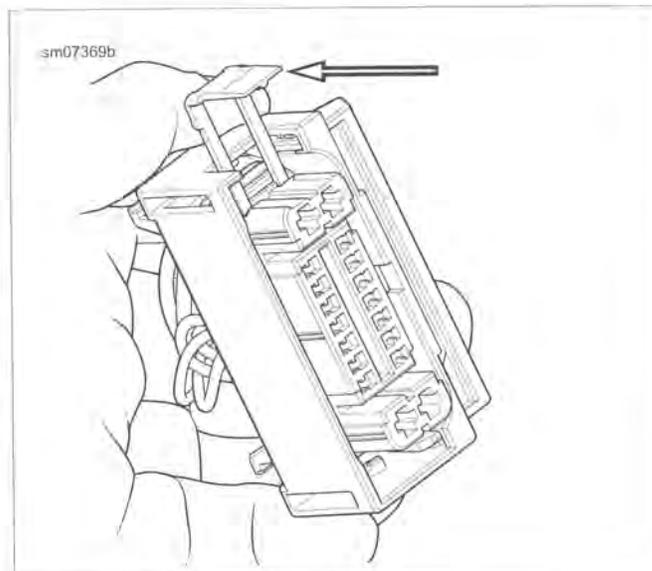

Figure A-74. Tyco MCP Connector Secondary Lock
2. See Figure A-74. Gently slide the secondary lock out of the connector with a screwdriver.